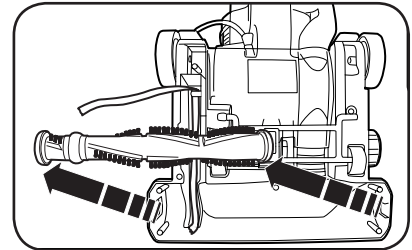

Fig. 2
2. Lift out the brushroll and remove the old belt (Fig. 2).